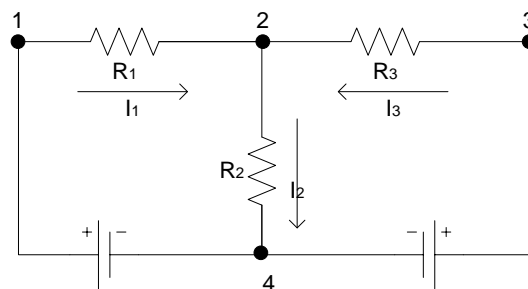

Figure 8.1: Multisource circuit
1. Construct a circuit as shown in Figure 8.1 above. Take one source voltage from variable supply and the other voltage from fixed supply of breadboard. Note these two, so that in case of these being disturbed, the same can be readjusted to the original value.